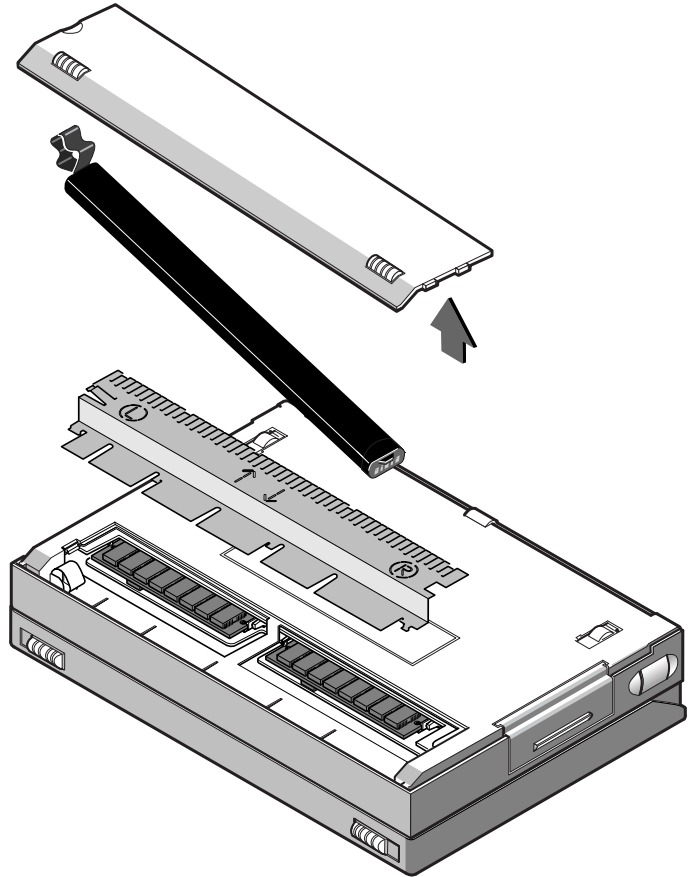

Figure 15-1 Removing the Battery Cover, Battery and SIMM Cover
- 4.** Placing the forefinger of the left hand on the L symbol and the forefinger of the right hand on the R symbol on the SIMM cover (see Figure 15-1), gently pull the SIMM cover toward yourself with your forefingers until the rearmost row of clips disengage from the base casting. Then, with your thumbs, press the cover towards the rear of the unit until the clips (normally) located beneath the battery disengage.